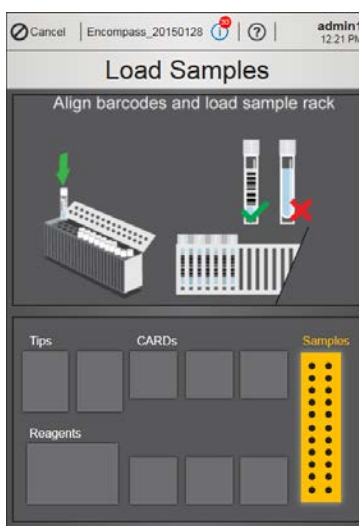

Figure 5-5: UI indicating sample loading
5.4.2. Change gloves and select “OK”. The Encompass MDx® workstation displays a schematic of the workstation deck (Figure 5-5). Sections of the deck blink amber to prompt the user to load the indicated item.